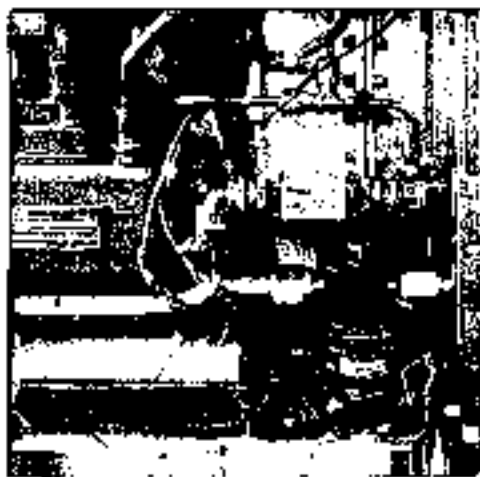

Fig. 9-16 Anti-icing bleed solenoid valve
6.2 ANTI-ICING BLEED AIR VALVE (See Fig. 9-16)